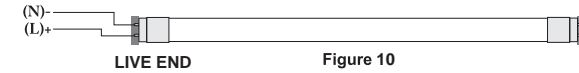

Figure 10
Step 6 : Identify one side of the lampholder which connected the the supply circuit as the live end and marked as "LIVE END" or "L/N" for future reference (See Figure 10). Install the LED lamp tube to light fixture . Match the power side (the side marked with "AC") of the lamp to the "LIVE END "side of the light fixture . Close the diffuser. This LED Retrofit kit is intended for use with maximum 4 lamps in light fixture with or without diffuser.